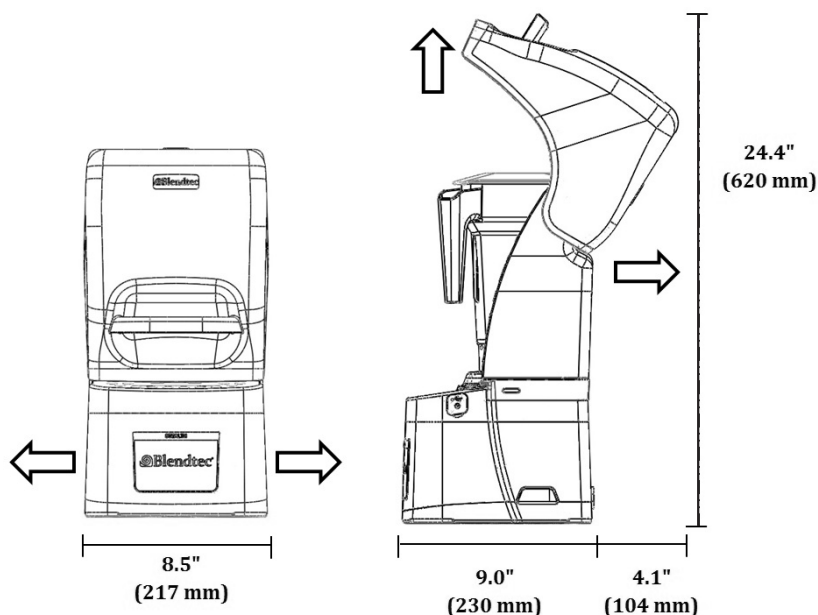

Figure 5. Blender Dimensions
- Ensure there is enough room above and around the unit to allow for unhampered movement of the sound enclosure (see Figure 5 for measurements).
Note: You may locate your Blendtec Stealth in the same space as your previous Blendtec in-counter blender. Just remember to ensure proper spacing for the sound enclosure (see Figure 5 for measurements).
- Ensure the location meets all dimensional requirements (see Figures 5 and 6).